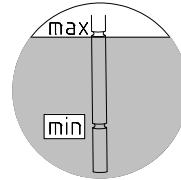

Figure 5-1: Check the oil level with a dipstick
4. **Gear units with an oil level vessel:** The oil level must be checked **in the oil level vessel** with the aid of the dipstick plug (thread G1 1/4). The oil level must be between the upper and lower mark when the dipstick is completely screwed in (see Fig. 5-1). The oil level must be corrected with the correct type of oil if necessary. These gearboxes may only be operated in the configuration stated in Section 6.1.